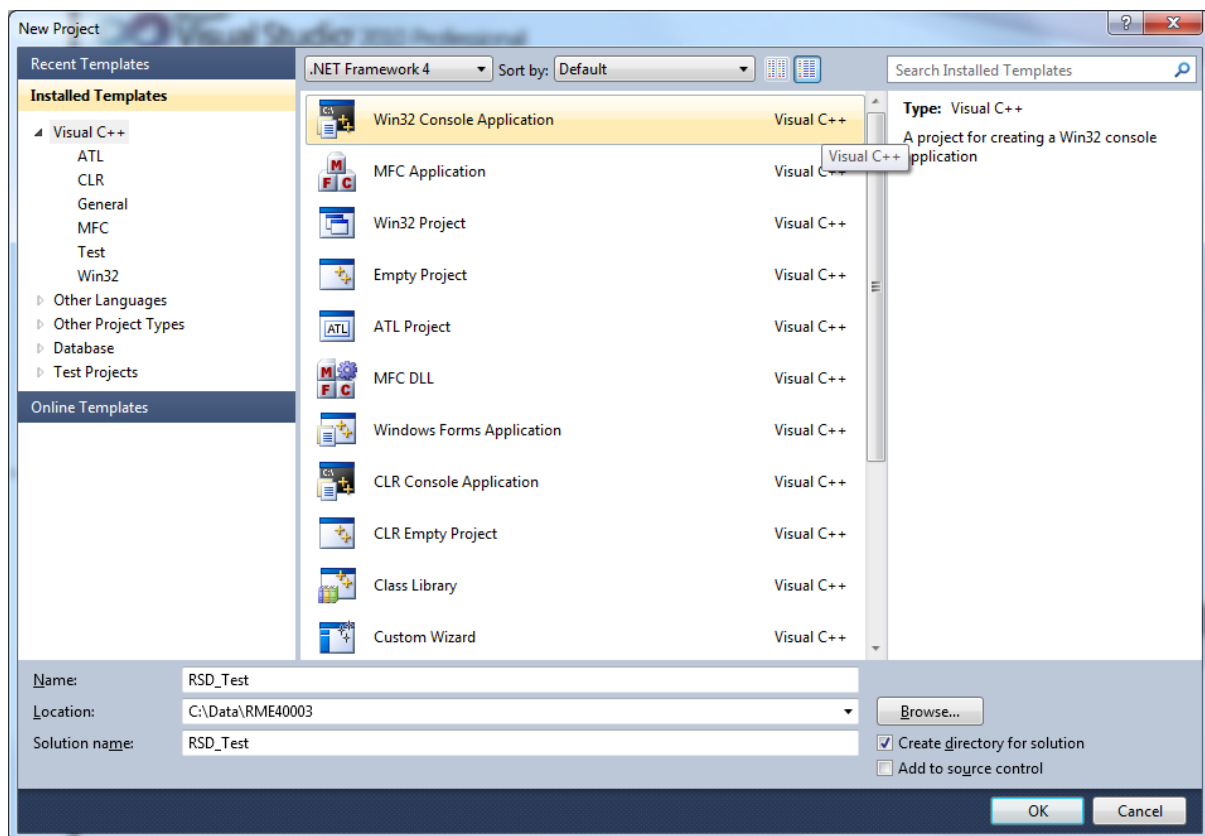

Figure 19 The new project window
4. In the new project window (see Figure 19) select “Win32 Console Application” and provide a name and location for your project. Then Click OK.